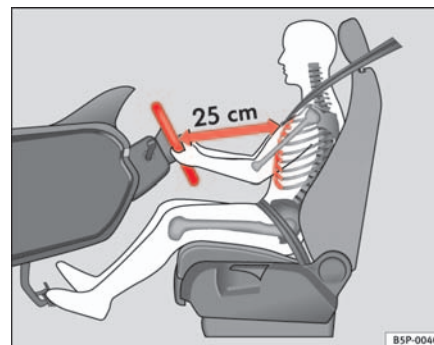

Fig. 110 Proper sitting position for driver
- Adjust the steering wheel in this way until the correct position is set ⇒ fig. 110.
- Adjust the driver seat or steering wheel so that there is a distance of at least 25 cm between the steering wheel and your breast bone ⇒ page 146, fig. 110. If you fail to observe the minimum distance, the airbag will not protect you. Risk of fatal injury.